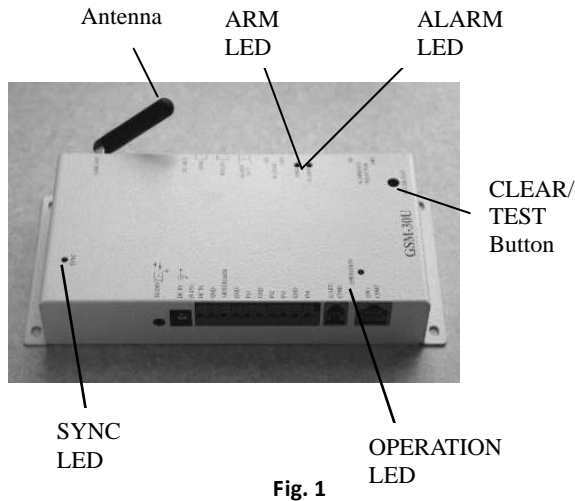

Fig. 1
**CLEAR/TEST:** Refer to Fig 1. Pressing this button for 2 seconds would reset Alarm LED, and activate buzzer to sound a beep.